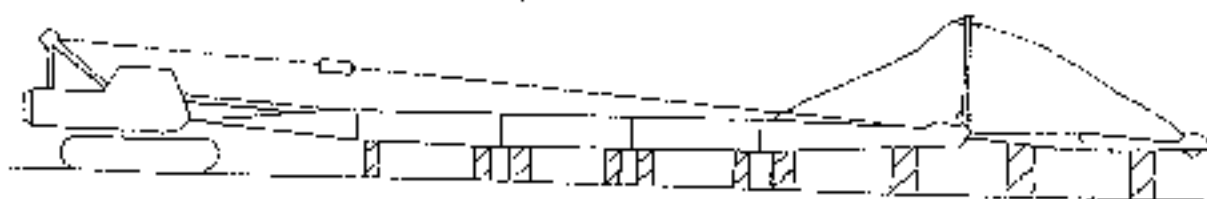

Fig. 17
3). Pass the tension cable for boom and jib through the jib strut, and connect the cable to the pivot on boom top (refer to Fig. 17).